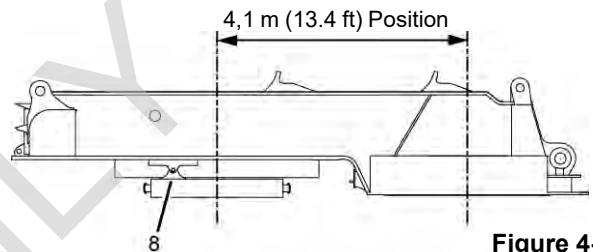

Figure 4-46
- Series 1, 2, 3 Counterweight: connecting lugs (8) toward REAR of crane. This is the 4,1 m (13.4 ft) position given in the Series 1, 2, 3 Capacity Charts (Figure 4-46).